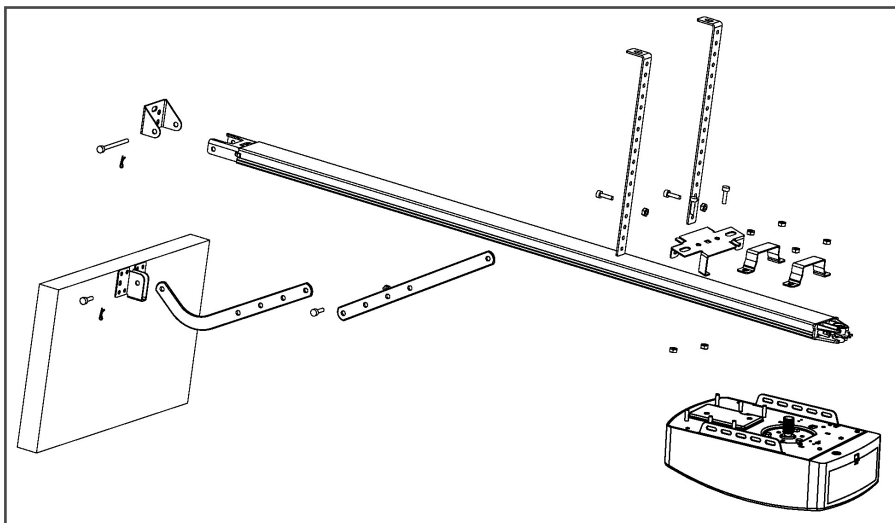

FIGURE 3
STEP1 (Fig.3)
STEP2 (Fig.3)
STEP3 (Fig.3, Fig.4)
STEP4 (Fig.3, Fig.5)